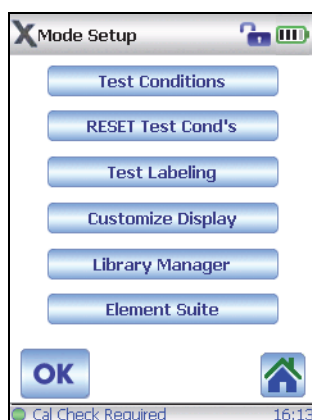

Figure 4-17 The Mode Setup screen
2. In the **Mode Setup** screen, tap **Test Conditions** (see Figure 4-17 on page 77).